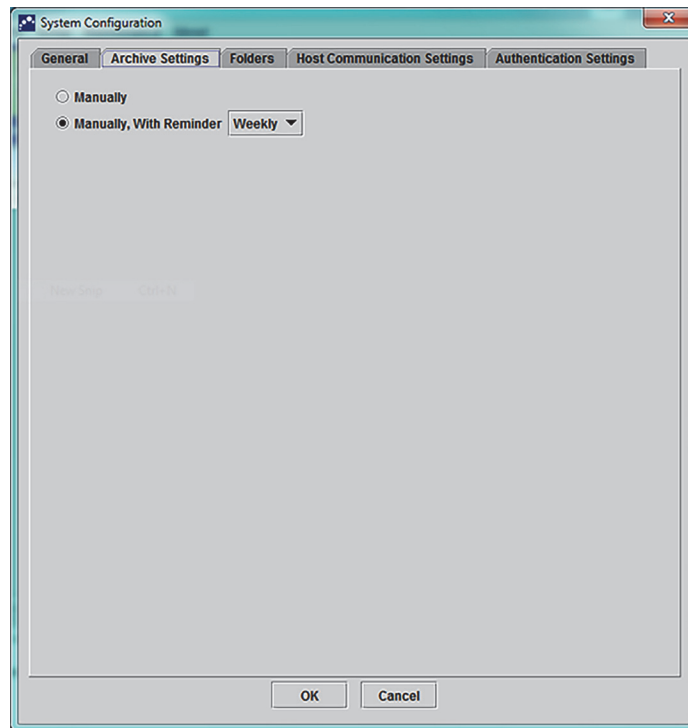

Figure 2-41. System Configuration Dialog Box (Archive Settings Tab)
2. Select the **Archive Settings** tab. The **Archive Settings** tab information appears. See Figure 2-41.